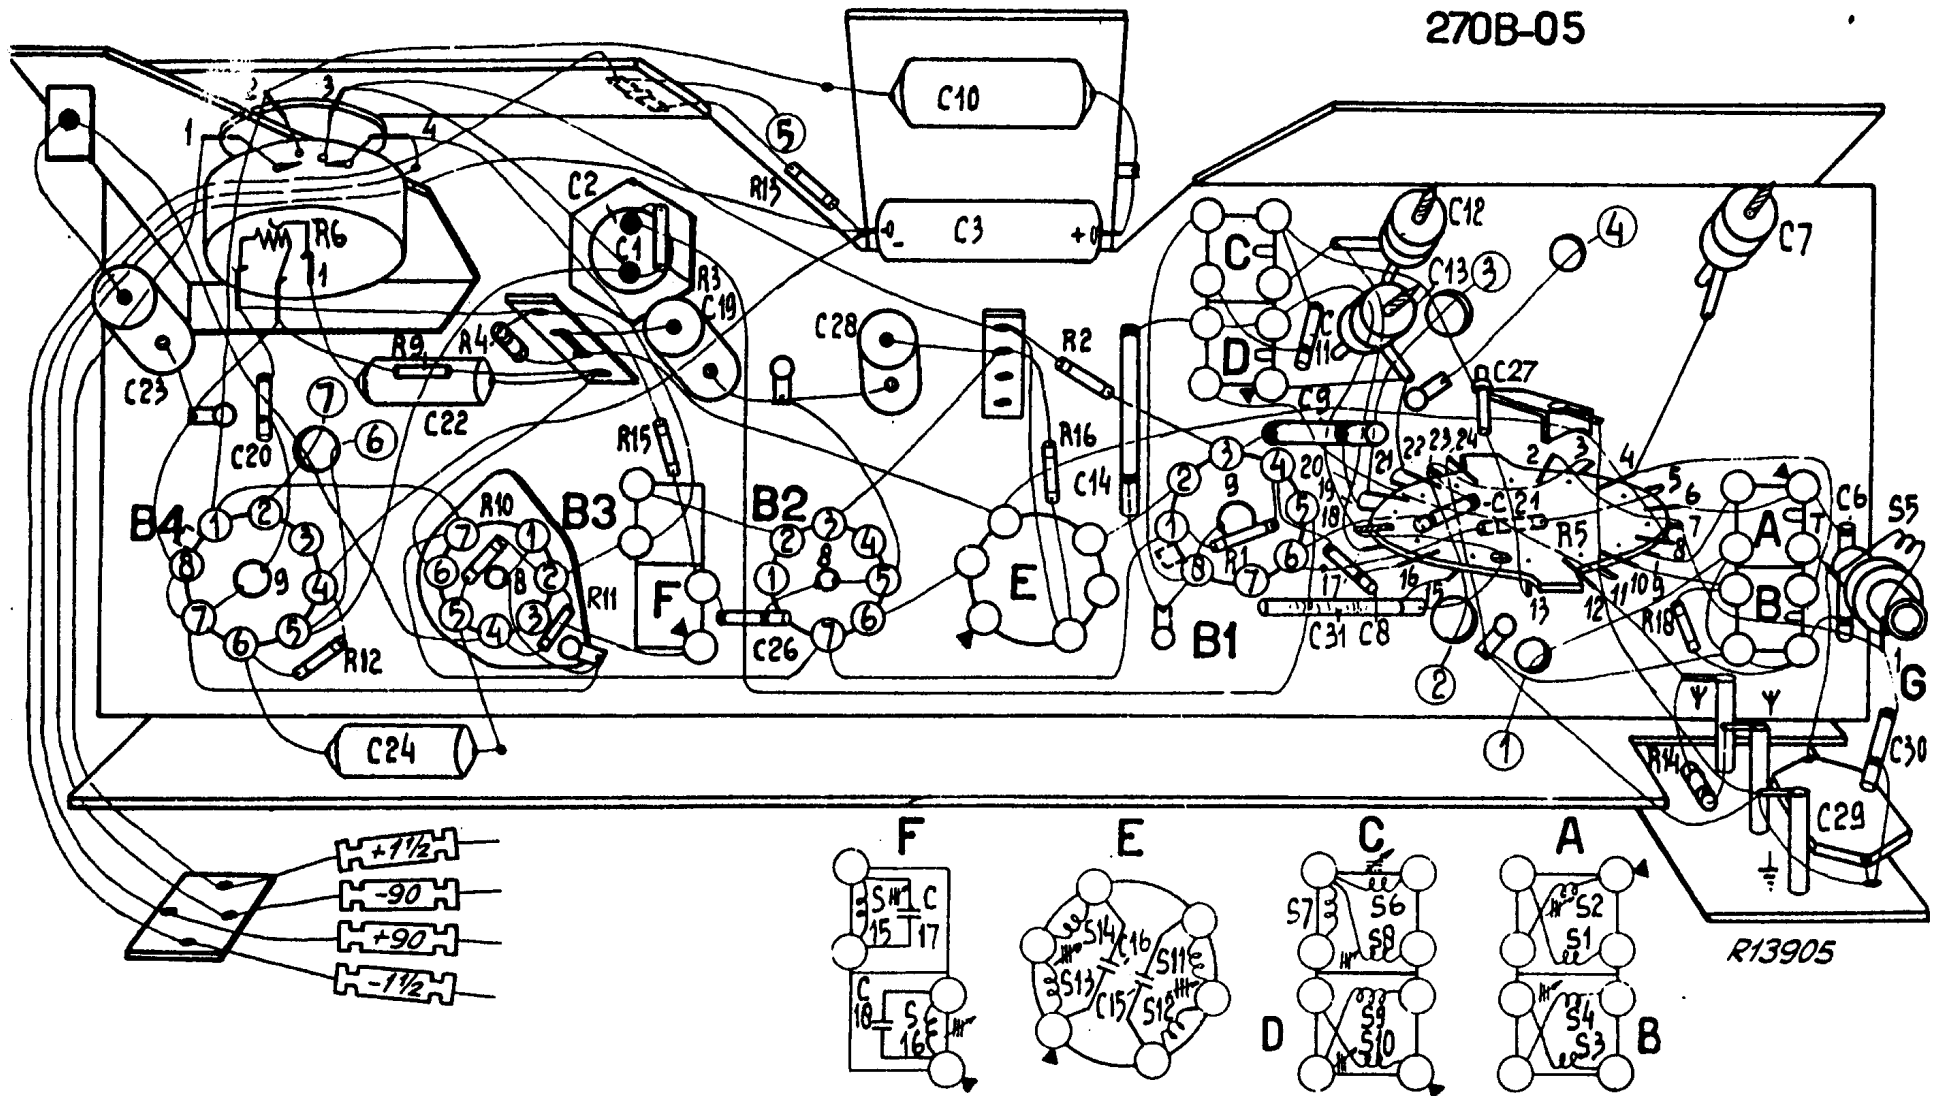

Fig.6
- Fig. 6 Wiring diagram (above)